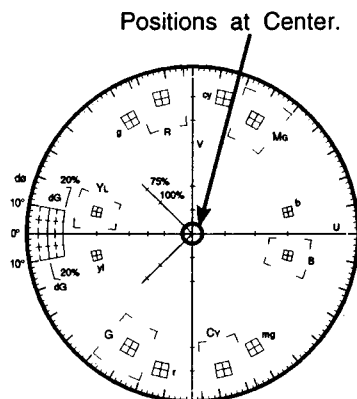

Fig. 5-1-45
- Adjust VR111 so that the vector positions at the center of the Vectorscope as shown in Fig. 5-1-45.
- Adjust VR311 so that the vector positions at the center of the Vectorscope as shown in Fig. 5-1-45.